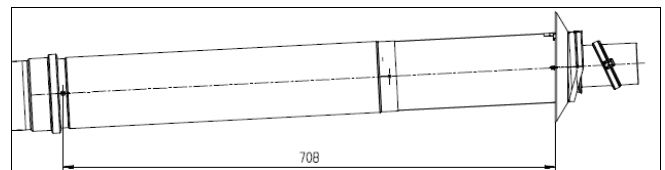

Fig. 2: 60/100mm Flue 7-716-191-171
**60/100:** For external walls with a thickness between 468mm & 708mm the long telescopic flue kit & terminal 7-716-191-171 can be utilised (see Fig. 2).